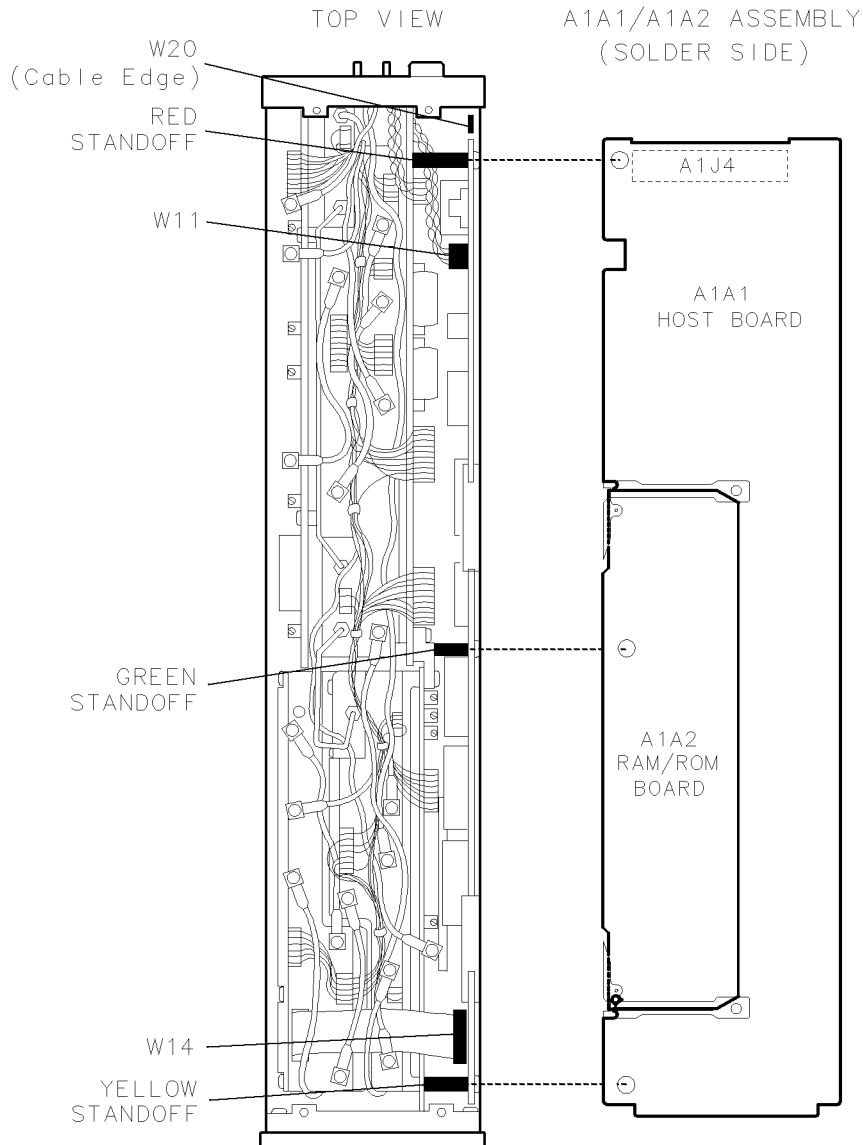

Figure 5. High-Speed Controller Board Assembly Installation
2. Connect the W20 flex cable to J4 of the A1A1 Host Board Assembly. See Figure 5.
8. Reconnect the W14 ribbon cable to A1A1J5. See Figure 5.